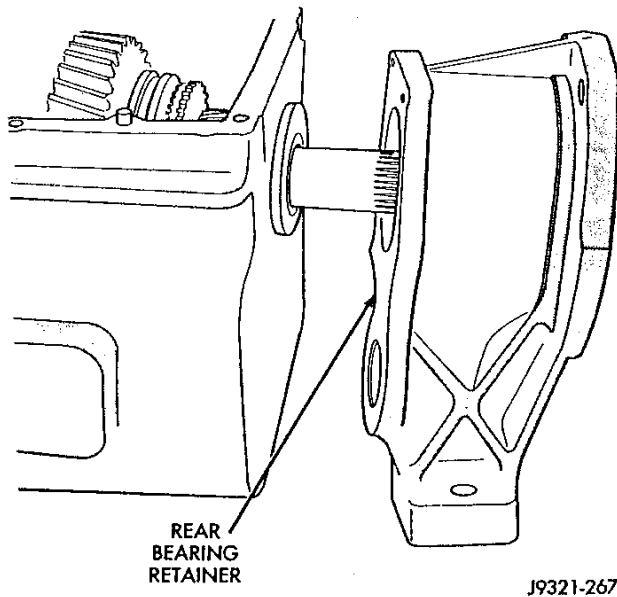

Fig. 5 Four Wheel Drive Rear Bearing Retainer Removal
(3) On 4-wheel drive transmission, remove rear bearing retainer bolts and remove retainer from gear case (Fig. 5).